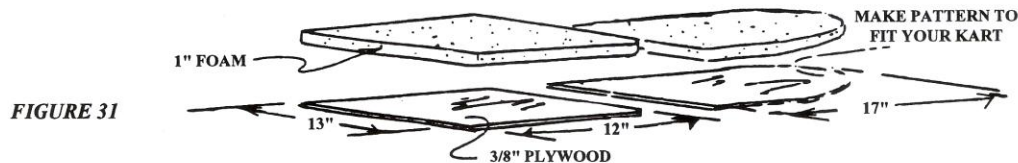

FIGURE 31
22. CUT 2 PIECES OF 3/8" PLYWOOD AS SHOWN BELOW IN FIGURE 31. CUT FOAM THE SAME SIZE AS PLYWOOD. YOU WILL HAVE TO MAKE BACK SEAT PATTERN FROM FRAME OF KART. COVER WITH WATER RESISTANT FABRIC, USING SMALL NAILS OR STAPLES TO FASTEN THE FABRIC TO PLYWOOD. FASTEN SEAT TO KART USING WOODSCREWS. YOU ARE NOW READY TO RIDE YOUR KART. DRIVE CAREFULLY.